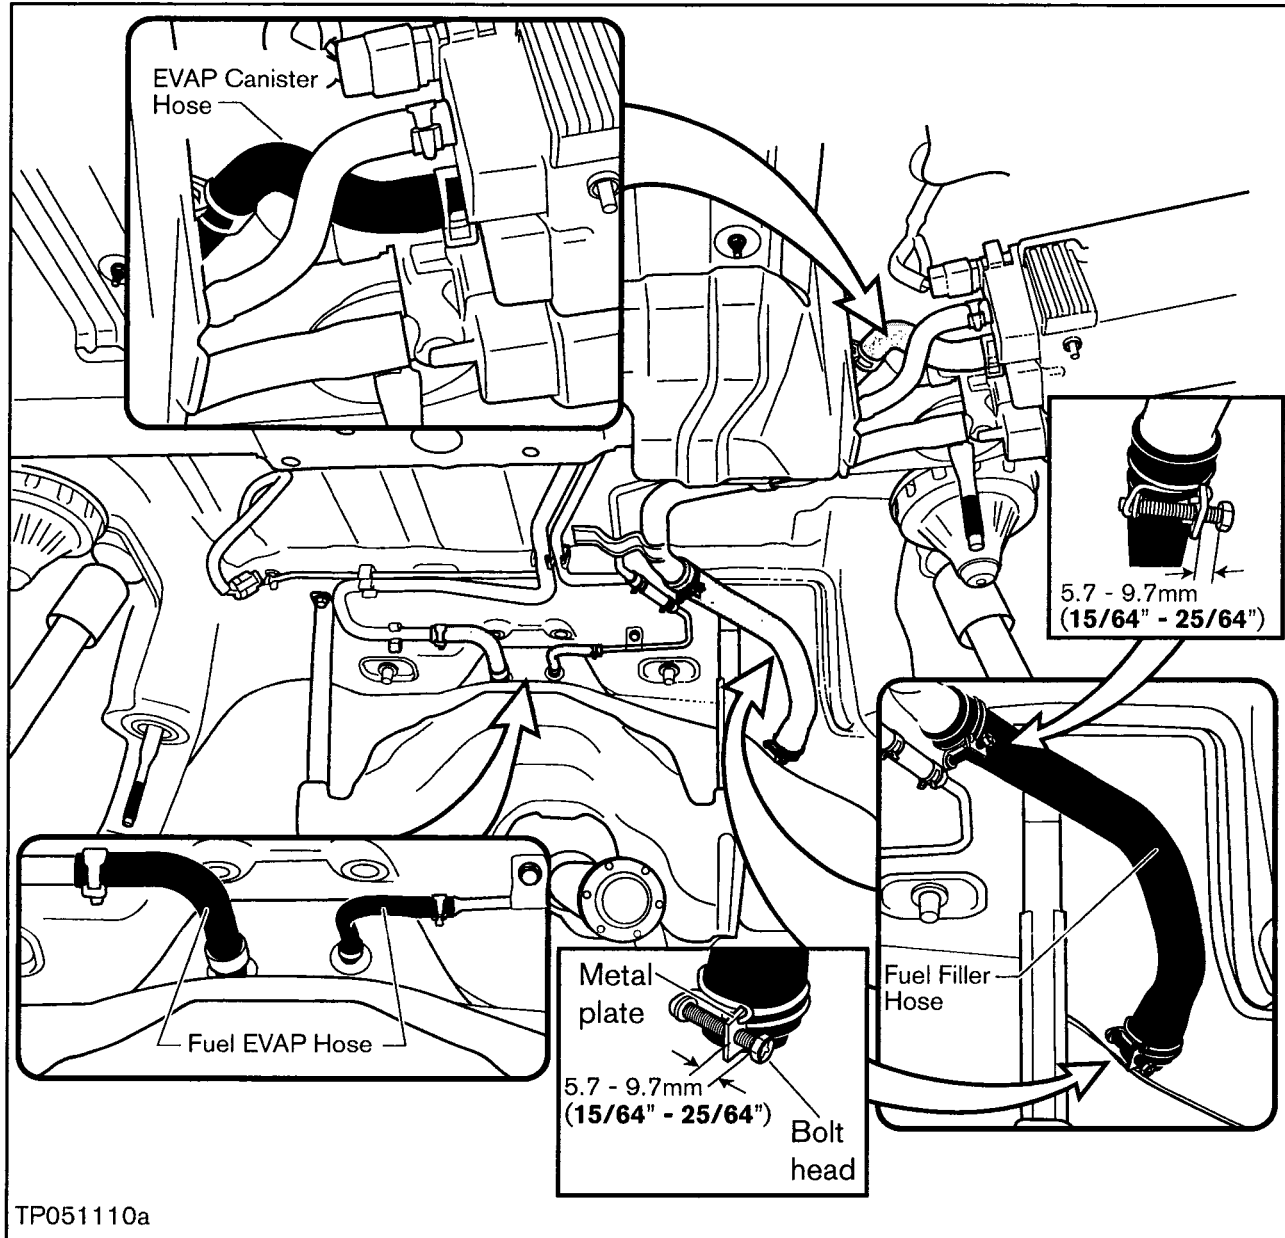

Figure 71
34. Remove and replace the four fuel hoses (provided in the kit). See Figure 71.
- Tighten the fuel filler hose clamps so that the distance between the bolt head and metal plate is set to the proper dimension (see Figure 71).